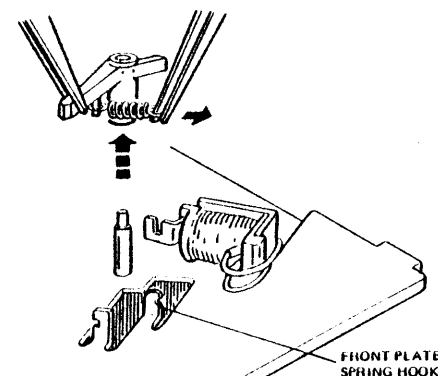

FIGURE 4-18
4. Replace pawl and pawl encoder spring (see Figure 4-18). Insert short tongue of pawl into cut-out in clapper on solenoid, and drop pawl onto shaft adjacent to solenoid. Hold spring in tweezers at an angle of 90 degrees for convenience. Attach one end of spring to the post on the underside of the pawl. Carefully attach the other end to the hook on the front plate, adjacent to the pawl. The ends of the spring are interchangeable.